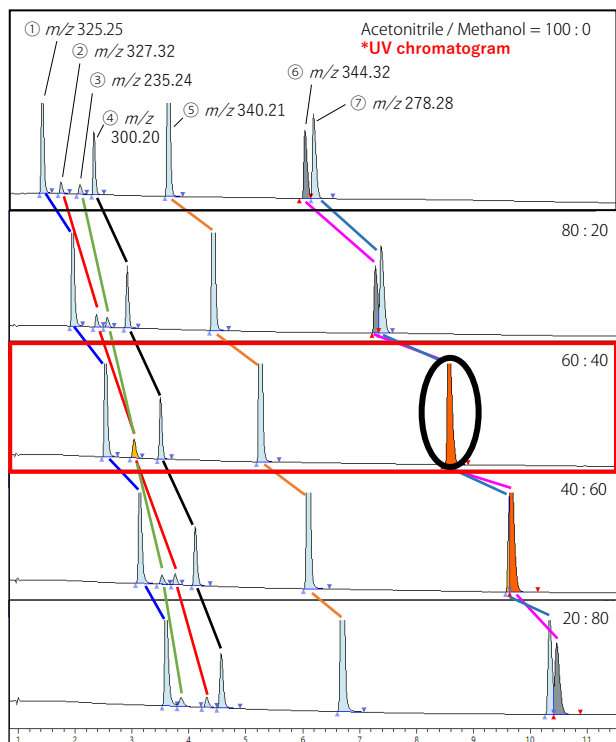
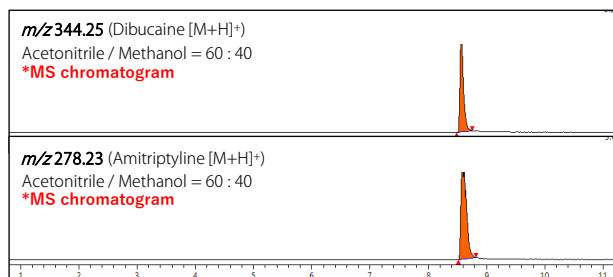

Fig. 1 Peak Tracking based on m/z
Fig. 2 MS Chromatograms and m/z of Peaks Suspected to be Co-eluted (black circled in Fig. 1).
Fig. 1 displays chromatograms obtained by varying the acetonitrile ratio (from 0% to 100% in 10% increments) in the organic mobile phase and the column oven temperature (from 30 °C to 40 °C in 5 °C increments). In the chromatogram at 60% acetonitrile (highlighted in red in Fig. 1), five peaks were detected. Notably, two combinations of impurities, Quinidine (②)/Lidocaine (③) and Dibucaine (⑥)/Amitriptyline (⑦), were co-eluted, and these un-separated peaks might have gone unnoticed. When co-elution of peaks is suspected, LabSolutions MD highlights the target peak in orange (as indicated by the black circle in Fig. 1) by using mass information from LCMS-2050. It also provides m/z for multiple co-eluted compounds. For instance, the peak suspected of co-elution at the acetonitrile ratio of 60% contained compounds each with m/z values of 344.25 and 278.23 respectively (Fig. 2), suggesting co-elution of Dibucaine and Amitriptyline. Peak tracking using m/z revealed the presence of up to seven compounds in the sample. It showed that impurities of Quinidine (②) and Lidocaine (③), as well as Dibucaine (⑥) and Amitriptyline (⑦), were eluted in a different order depending on the variation in the acetonitrile ratio in the organic mobile phase. In this way, LabSolutions MD can eliminate the possibility of missing un-separated peaks and provide a more efficient workflow for searching for optimal separation conditions, thanks to accurate peak tracking using m/z , as well as automatic determination and highlighting of co-eluted peaks.